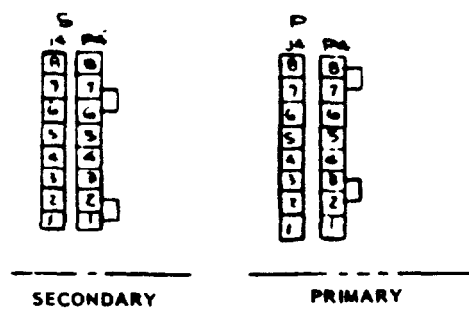

Figure 3. Remote PCB (J4/P4 Connections)
- B. Check the remote PC board (P/N 402970) located in the SR-402RA Remote Unit to ensure that the J4/P4 connection is made correctly for single unit operation (as a secondary, see figure 3).